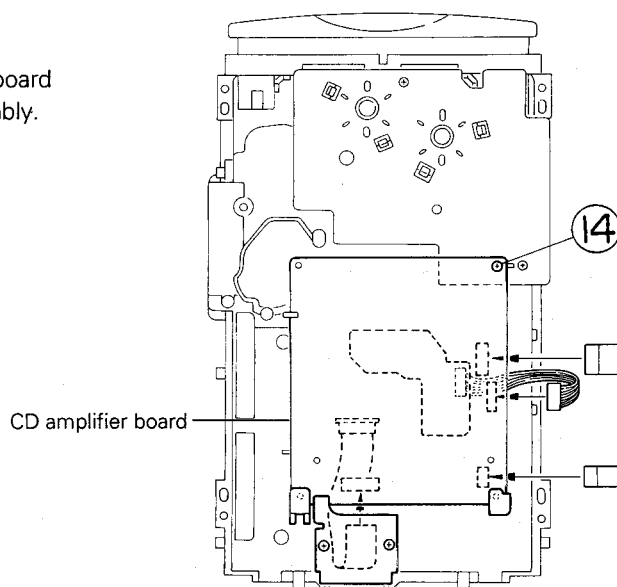

Fig. 5-16
■ CD amplifier board (Refer to Fig. 5-16.)
5. Remove one screw ⑭ retaining the CD amplifier board from the back of the CD traverse mechanism assembly.